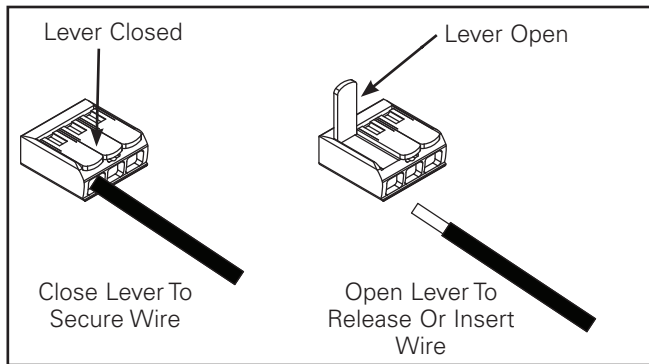

Figure 11
4. Connect supply lead wires to junction box lead wires (line, neutral and ground) in the fixture using the provided lever nut connectors. (Figure 11). Be careful not to leave any bare conductors outside of the lever nut connectors.
5. Lift the orange tab on the lever nut to disengage the wire and close to secure the wire in place. (Figure 11).